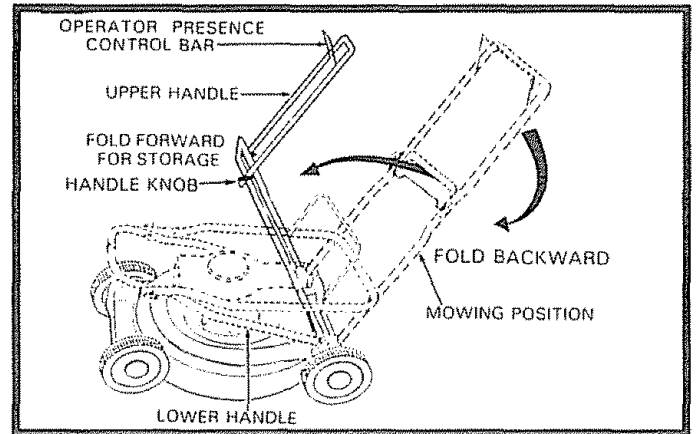

FIG. 12
- You can fold your lawn mower handle for storage as shown in Fig. 12.
IMPORTANT: WHEN FOLDING THE HANDLE FOR STORAGE OR TRANSPORTATION, BE SURE TO FOLD THE HANDLE AS SHOWN IN FIG. 12. IF YOU FOLD THE UPPER HANDLE SECTION THE WRONG WAY, YOU MAY DAMAGE THE CONTROL CABLES.